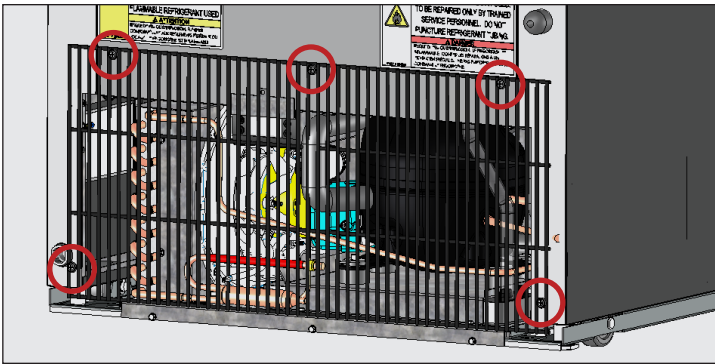

Fig. 1. CVM-11/13 rear grill screw locations.
2. Remove the rear grill. See figs. 1 and 2.